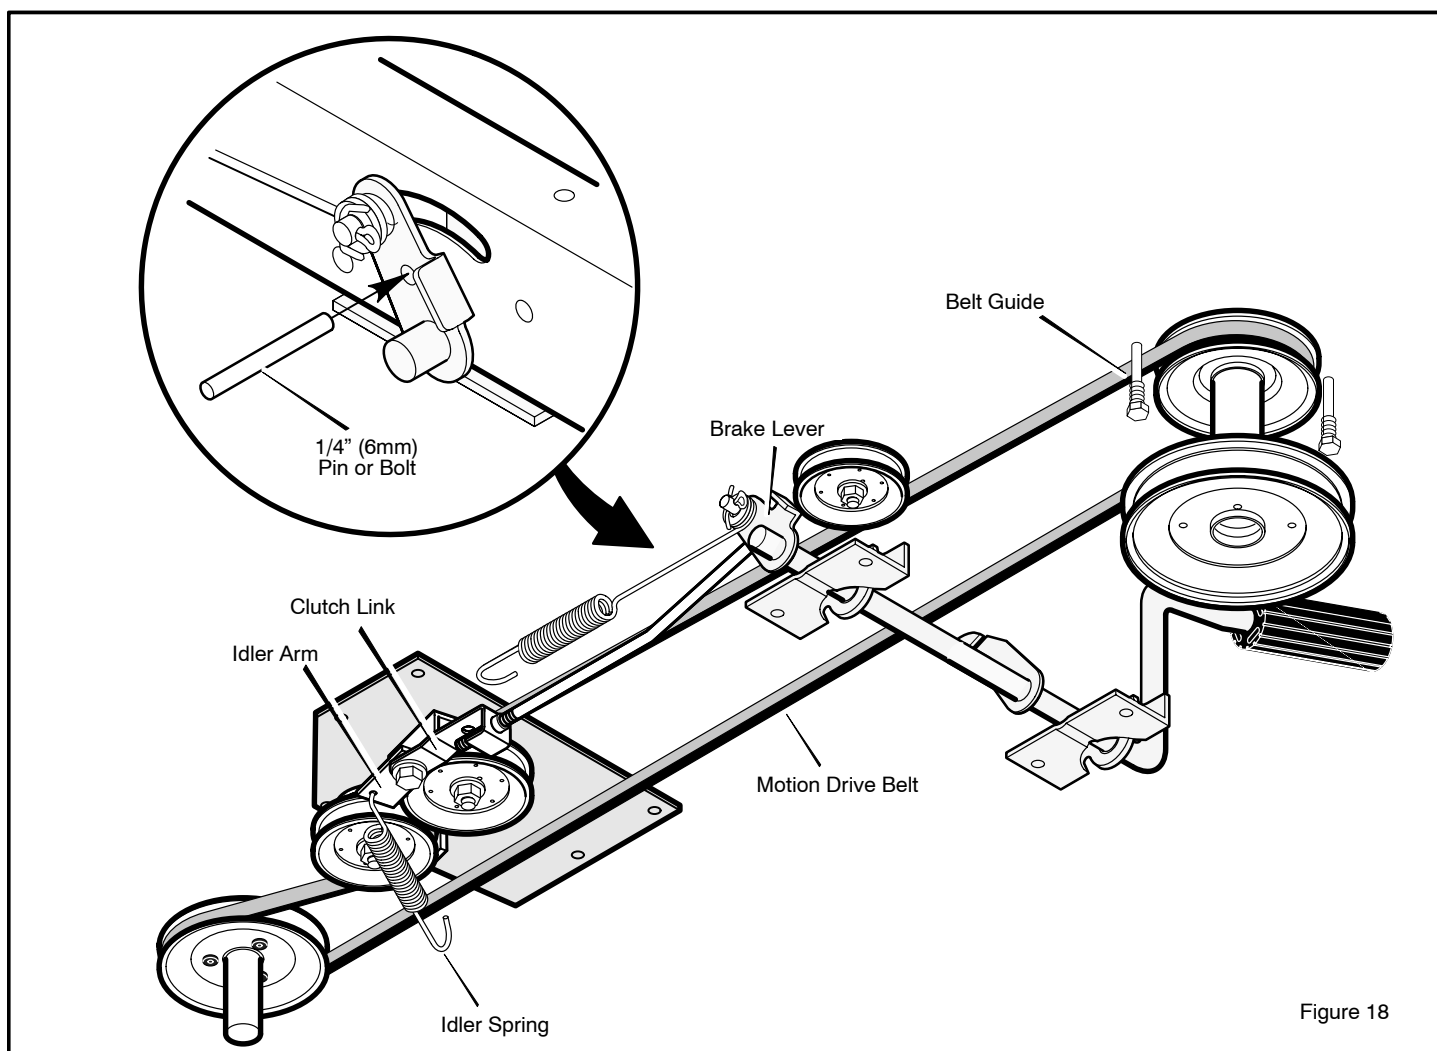

Figure 18
3. Align the hole in the **brake lever** with the hole in the frame. Hold the **brake lever** in place with a **1/4 inch (6 mm) pin or bolt** (Figure 18).
6. Remove the **1/4 inch (6 mm) pin or bolt** (Figure 18).